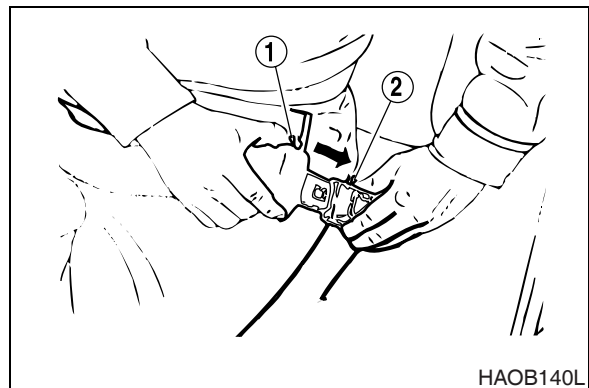

Figure 100
Insert belt end (1, Figure 100) into buckle (2). Pull belt to check that belt end is locked into buckle.